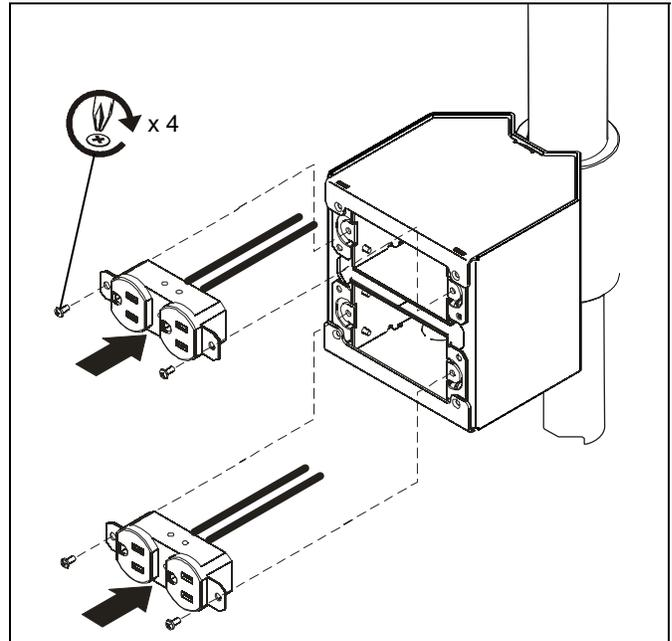

Figure 7
9. Connect wires to two plugs (not included) and secure plugs to junction box using two screws (provided with plug) for each plug. (See Figure 7)